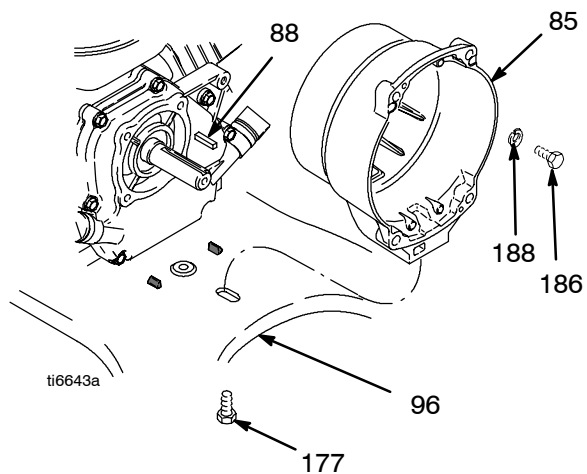

Fig. 10
1. Fig. 10. Remove four cap screws (186) and lock washers (188) which hold clutch housing (85) to engine.
2. Remove screw (177) from under mounting plate (96).
3. Pull off clutch housing (85).
1. Fig. 10. Push on clutch housing (5).
2. Install four cap screws (186) and lock washers (188) and secure clutch housing (85) to engine. Torque to 200 in-lb (22.6 N•m).
3. Install capscrew (177) from beneath mounting plate (96). Torque to 26 ft-lb (35.2 N•m).